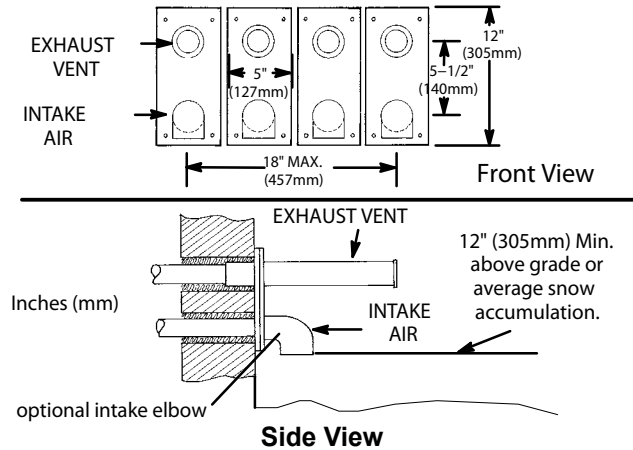

Figure 37
- 8. Based on the recommendation of the manufacturer, a multiple furnace installation may use a group of up to four terminations assembled together horizontally, as shown in Figure 37.